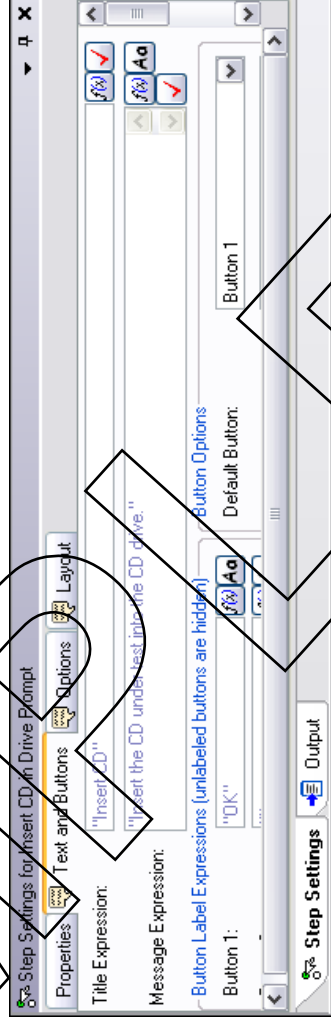

Figure 4-1. Text and Buttons Settings for Insert CD in Drive Prompt Step
- The Step Settings pane should be similar to Figure 4-1.